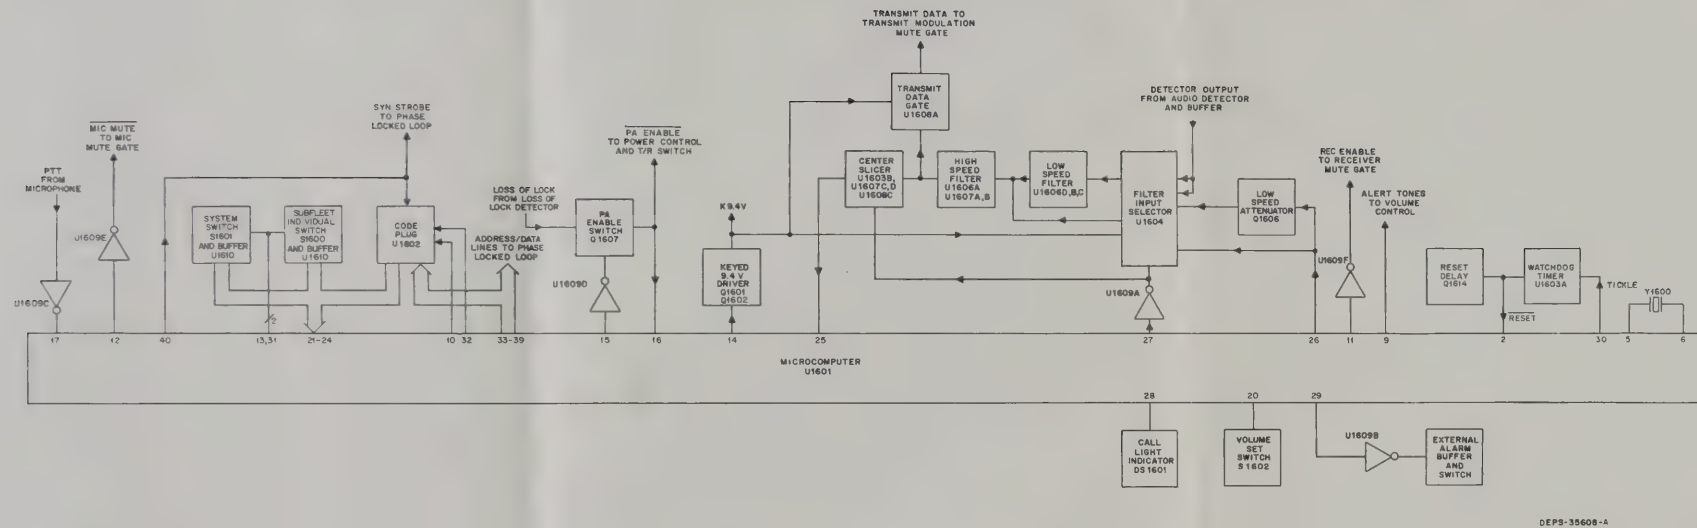

Figure 4. Microcomputer Circuits Block Diagram
1.7 MICROCOMPUTER AND ASSOCIATED CIRCUITS — GENERAL DESCRIPTION (Refer to Figure 4 Microcomputer Circuits Block Diagram)